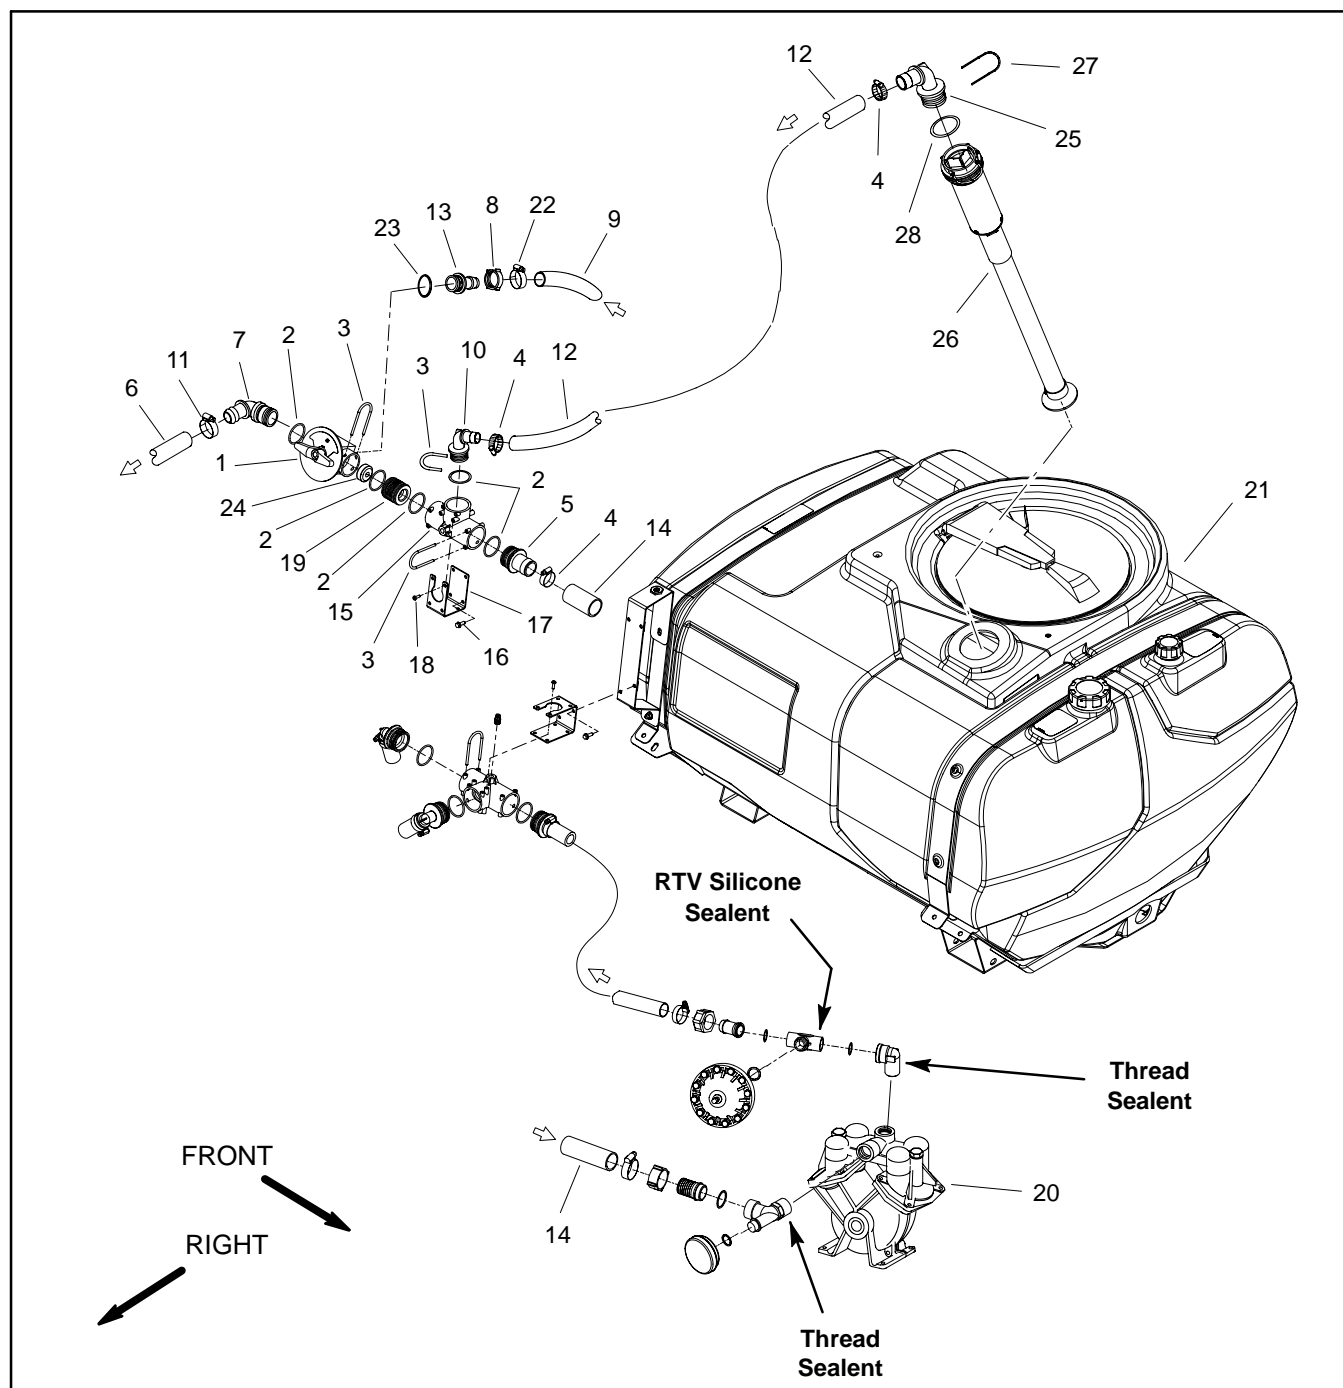

Figure 52
Removal (Fig. 52)
5. Remove suction tube assembly from spray tank using Figure 52 as a guide. Discard all removed O-rings and gaskets.
Installation (Fig. 52)
2. Install suction tube assembly into spray tank using Figure 52 as a guide. Replace all removed O-rings and gaskets. The foot of the suction tube foot should be less than 1/2 inch (12.7 mm) from floor of spray tank after assembly.